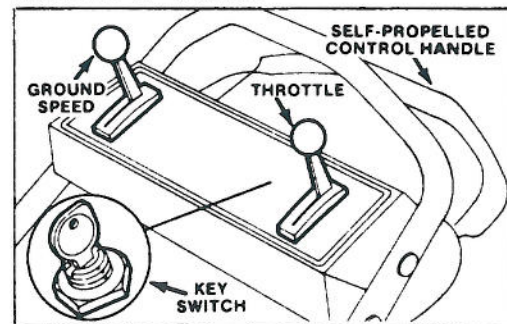

Figure 9
1. **CONTROLS** — Key switch (Key Start Models) throttle, ground speed control and self-propelled control bar are on upper handle (Fig. 9). Fingertip starter is on top of engine.
2. Push high tension wire onto spark plug and on self-propelled models move ground speed control to "N" (Fig. 9).
4. **KEY-ELECTRIC STARTING** — Move throttle (Fig. 9) to **CHOKE**. Turn Key (Fig. 9) to **START** and release when engine begins running. Regulate throttle as desired.
5. **TRACTION OPERATION** (Self-propelled model) — Move ground speed control to desired setting and squeeze control bar against handle to drive. Ground speed varies, depending on space between control bar and handle. (Fig. 9).
6. **STOPPING** (Fig. 9) — release control bar to stop traction drive. Move ground speed control to "N" on self-propelled models. To stop engine, move throttle to **OFF**. Remove key from switch or pull wire off spark plug if mower is unattended or not used.